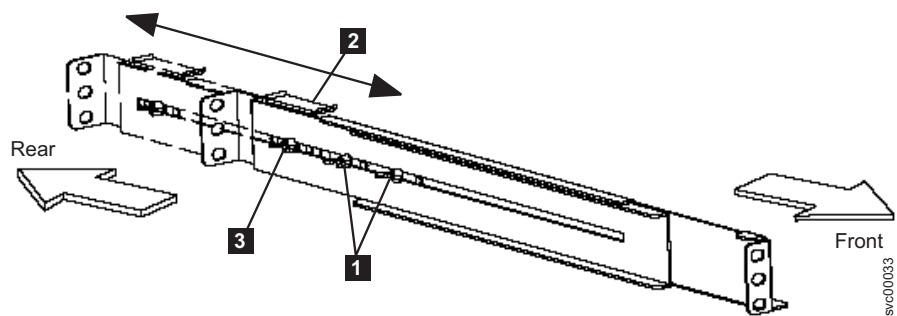

Figure 196. Adjusting the rail depth on the 2145 UPS-1U
3. Loosen the assembly wing nuts (see **1** in Figure 196) on both rail assemblies and adjust the rail size to the depth of your rack.
4. Position the rear, hold-down bracket **2** towards the end of the rail assemblies and tighten the wing nut **3**. See Figure 196.